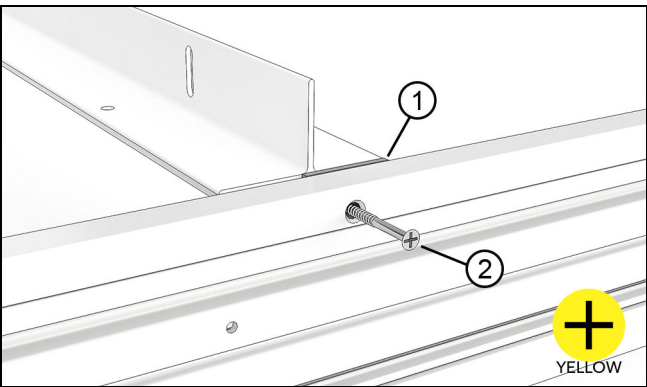

Figure 54 Fasten interlock to sill
12. Fasten the pocket interlock to the sill using the #8 x 2 1/2" (6) screw through the pre-drilled hole in the sill and into the screw boss on the interlock. See Figure 54.